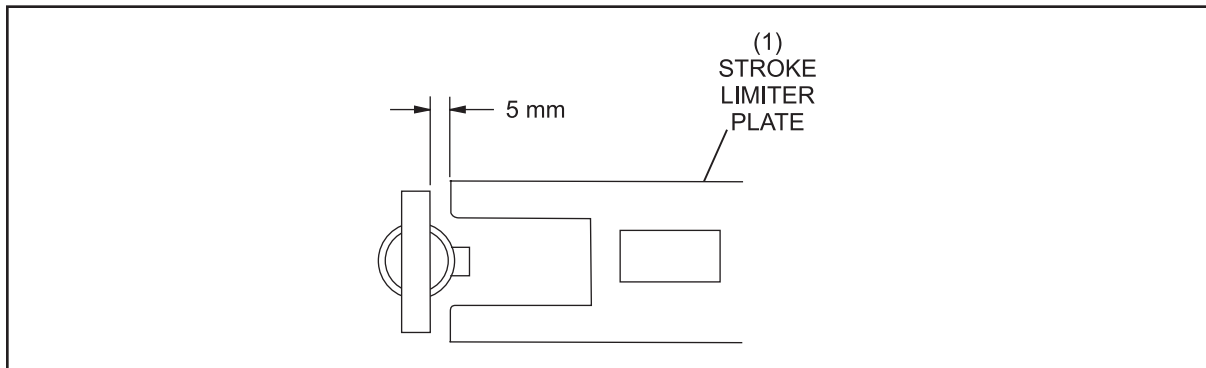

Figure 5-43. Stroke Limiter Clearance
2. Manually push in the plunger of the stroke limiter solenoid. Check for a clearance of 5 mm + 1 mm between the “T” stop and the stroke limiter plate. Refer to *Figure 5-43* and 5-44. To adjust, loosen both solenoid mounting screws and hold the plunger so its bottomed in the solenoid. Reposition the solenoid to achieve a 5 mm clearance. Retighten the mounting screws.
3. With the stroke limiter plate forward in its normal position, check that the plate is centered on the “T” stop. If not, adjust the stroke limiter plate mounting bolt and center the hydraulic shock on its lower mounting shaft by loosening the set collars and moving the hydraulic left or right. Refer to *Figures 5-43*.